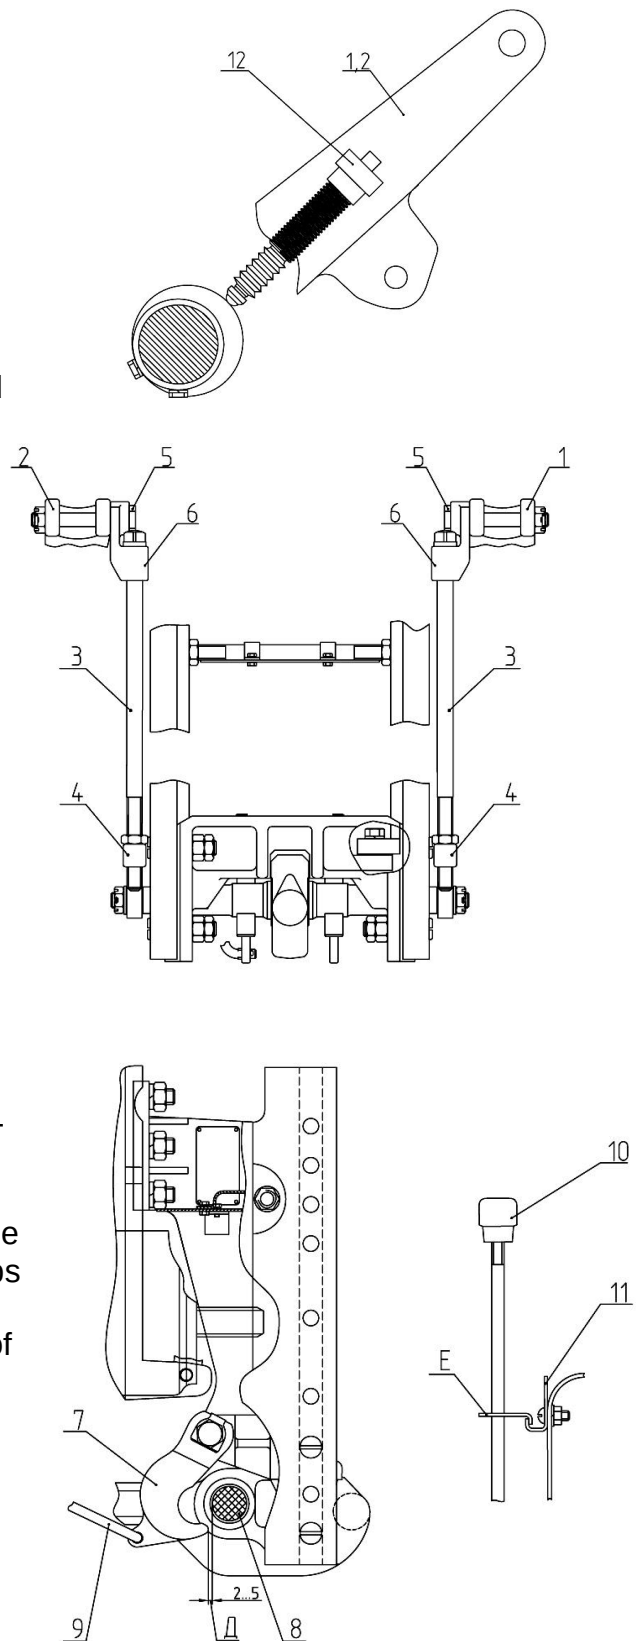

Fig. E-39
ATTENTION! Prior to beginning the work with semi-trailers as well as prior to each adjustment of the position sensor (in case of mounting of the EHR) determining the position of the lift levers (1) and (2) (see Fig. E-38), it is necessary to turn out the screws (3) (see Fig. E-39) from the shackles (4) to ensure the free travel of the levers to avoid breakage of pins (5) of the angle braces.